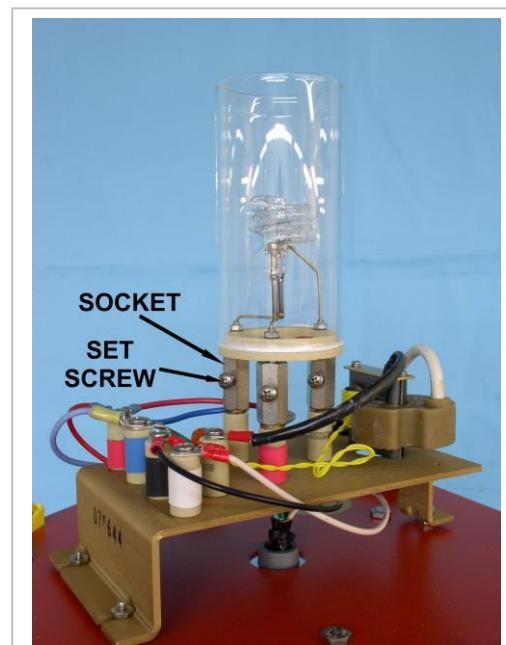

Figure 13b
The flash tube is held by a pin and socket arrangement. The pins are anchored in the ceramic base of the flash tube. The sockets are part of the flash tube bracket assembly, and provide mechanical as well as electrical functions. Each socket has a Phillips head set screw that engages the flash tube pin. These setscrews are shown in Figure 13b.
- Loosen the setscrews identified in Figure 13b, and remove the flash tube.